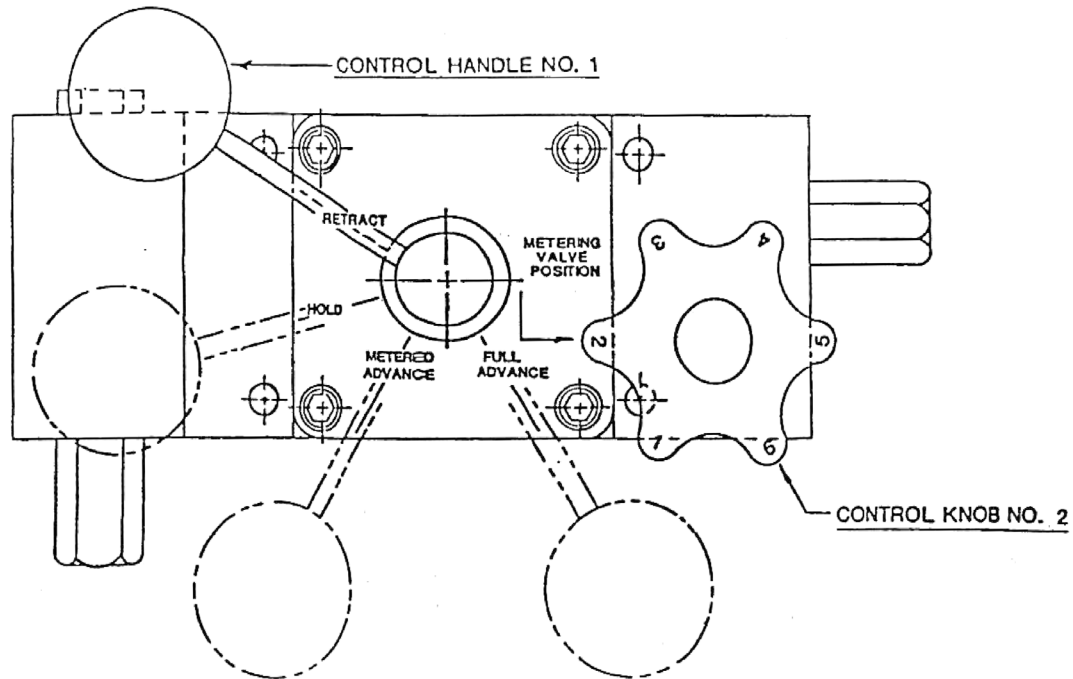

Figure 1
Placing Control Handle No. 1 (see Figure 1) into the metered advance position allows the operator to adjust the rate of loading through the use of Control Knob No. 2. To increase the rate of loading, turn Knob No. 2 counter-clockwise. To decrease the rate of loading, turn Knob No. 2 clockwise.
Placing Control Handle No. 1 into the hold position (see Figure 1) stops the loading of the specimen and holds the pressure on the specimen at that point.
7.5 Figure 1: Control Valve
5. On the top of the machine, loosen the 3/8in nuts (Part 1) to the end of the tension rod threads (Part 2) and stop. Refer to Figure 1 on page 2.